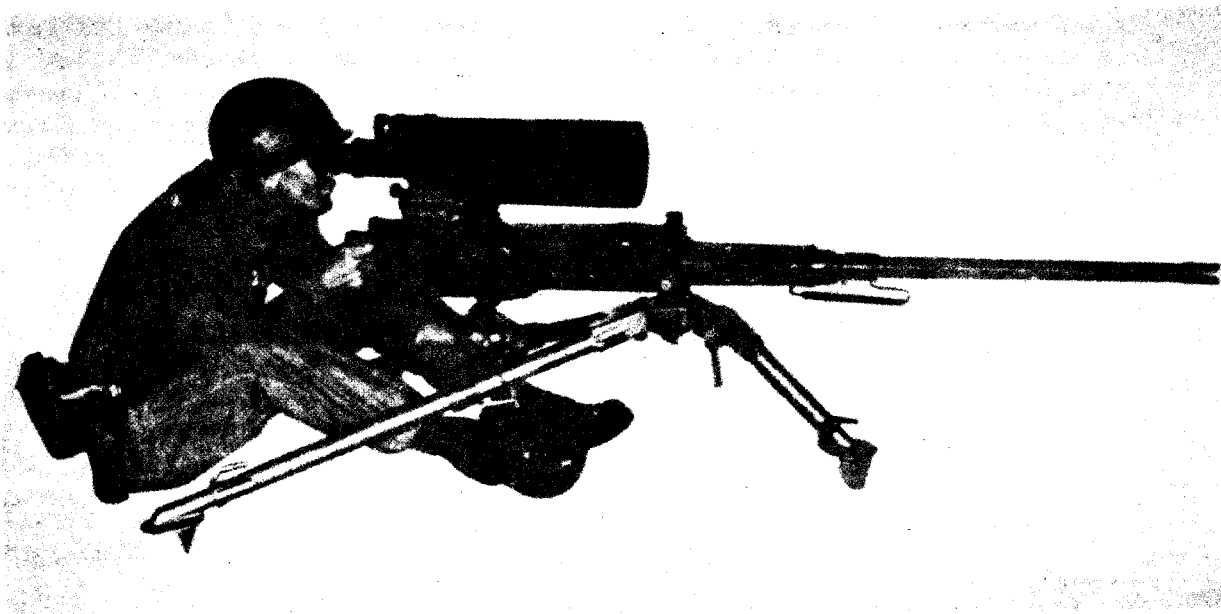

*Figure 17. Prone position, caliber .50 machinegun.*
- (1) *Prone position (fig 17).* The prone position is possible with the Sight mounted on the caliber .50 machinegun; however, it is not recommended because it requires the gunner to hold his head in an unnatural position and results in fatigue. To assume this position, the front leg of the tripod must be moved to the extreme low position, thus limiting the amount of elevation available on the elevating mechanism.